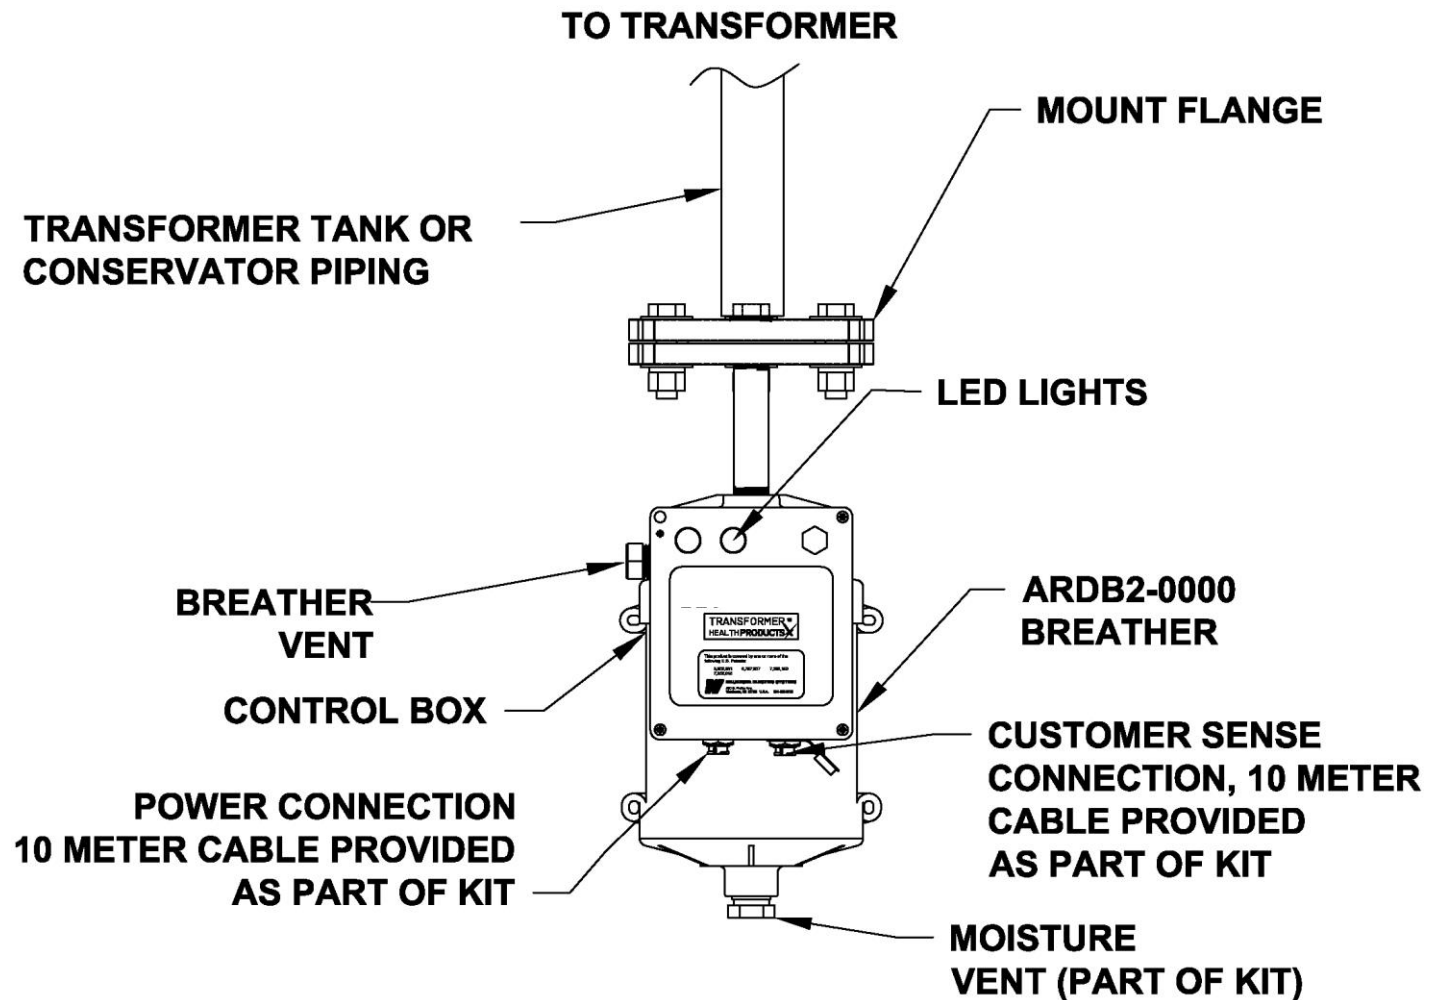

Figure C1 – Typical ARDB2 Flange Installation
- g. See Figure C1 on following page for a typical flange installation.